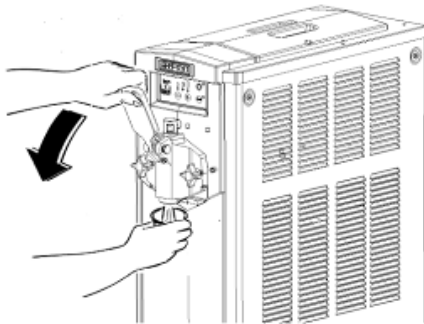

Fig. 35
- Fill the upper tank with lukewarm water and rinse the machine (Fig. 35) in order to flush it to remove the major part of the product residuals.